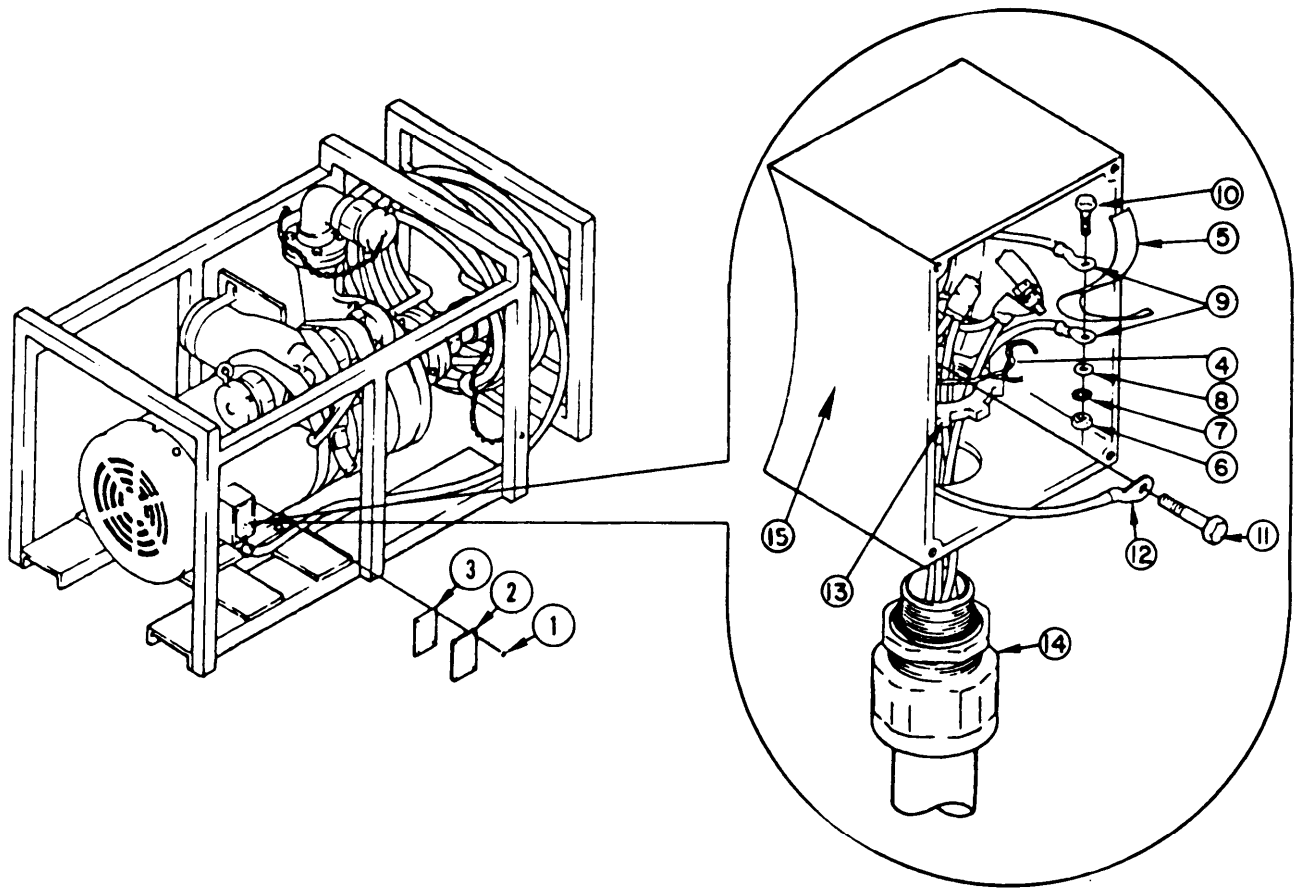

Figure 2-39. Backwash Pump Power Cable
2-41. BACKWASH PUMP ASSEMBLY. (Figure 2-39)
(6) Install strainer (6) using bolt (26), washer (25), lockwasher (24), and nut (23), on backwash pump frame (22).
(7) Mount strainer (6) on backwash pump (21) using two packing straps (5).
(8) Install two screws (4) into frame (22).
(9) Install two cap chains (3), two flat washers (2), and two self-locking nuts (1) onto screws (4).
h. Power Cable Assembly Installation. (Figure 2-39)